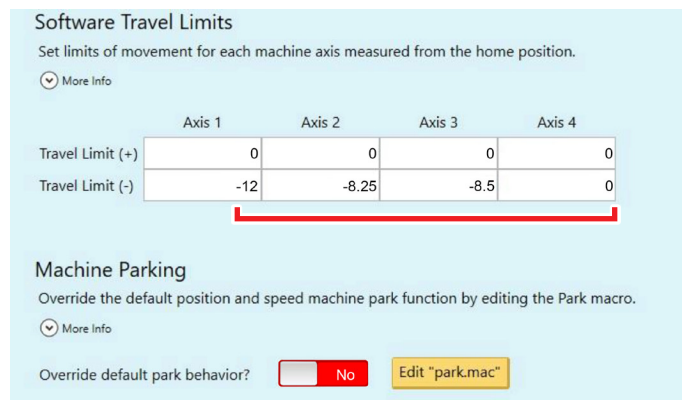

FIGURE 4
- C. Write down the limits for each axis that are on the “Software Travel Limits” area. For the mill, the axes are as follows: Axis 1 is the X-axis, Axis 2 is the Y-axis, Axis 3 is the Z-axis, and Axis 4 is the 4th-axis or rotary table. The axis values shown below are for our 5800 mill (see Figure 4). Write these values down.